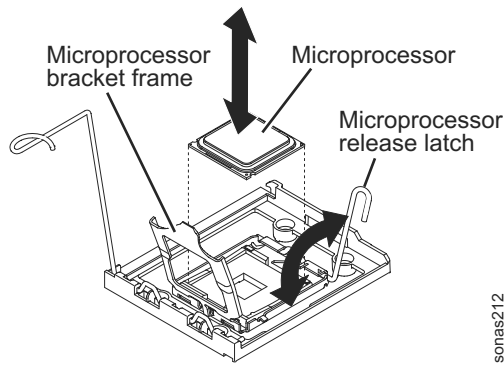

Figure 41. Microprocessor release latch
7. Release the microprocessor retention latch by pressing down on the end, moving it to the side, and releasing it to the open (up) position. See Figure 41 on page 138